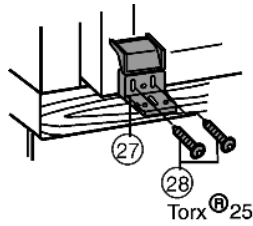

Fig. 15
- ▶ Screw plastic bracket Fig. 15 (27) onto the handle side of the appliance with M5 screws Fig. 15 (28).